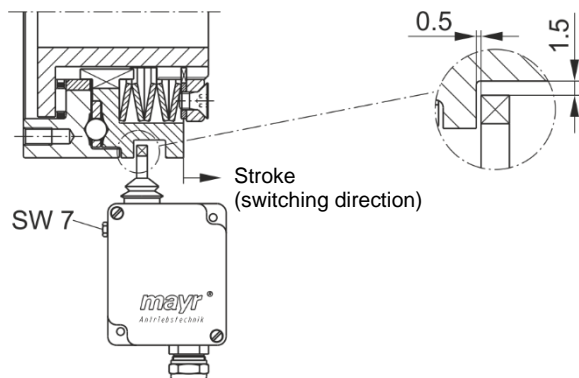
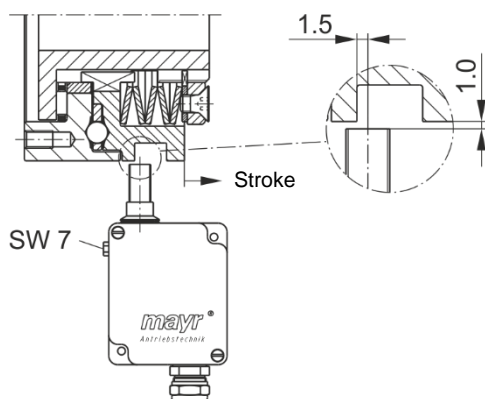

Fig. 7
Fig. 8
The switching direction of the mechanical limit switch faces in the direction of the adjusting nut or in the stroke direction of the control element, Fig. 7.
Adjust the switch distances for the mechanical and contactless limit switches acc. Fig. 7 or Fig. 8.
The axial dimension 0.5 mm or 1.5 mm (distance of the control element (3) to the switching point) can be adjusted using a hexagon head screw, wrench opening 7 (Fig. 7 or Fig. 8).